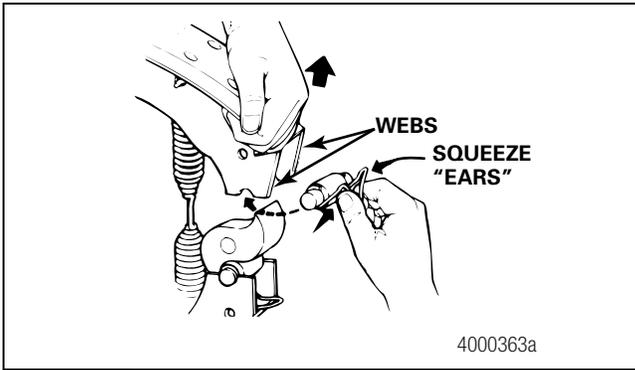

Figure 3.20
5. Pull each brake shoe away from the camshaft to enable you to install the brake shoe roller and roller retainer. Press the retainer ears to fit into the retainer between the brake shoe webs. Figure 3.20.